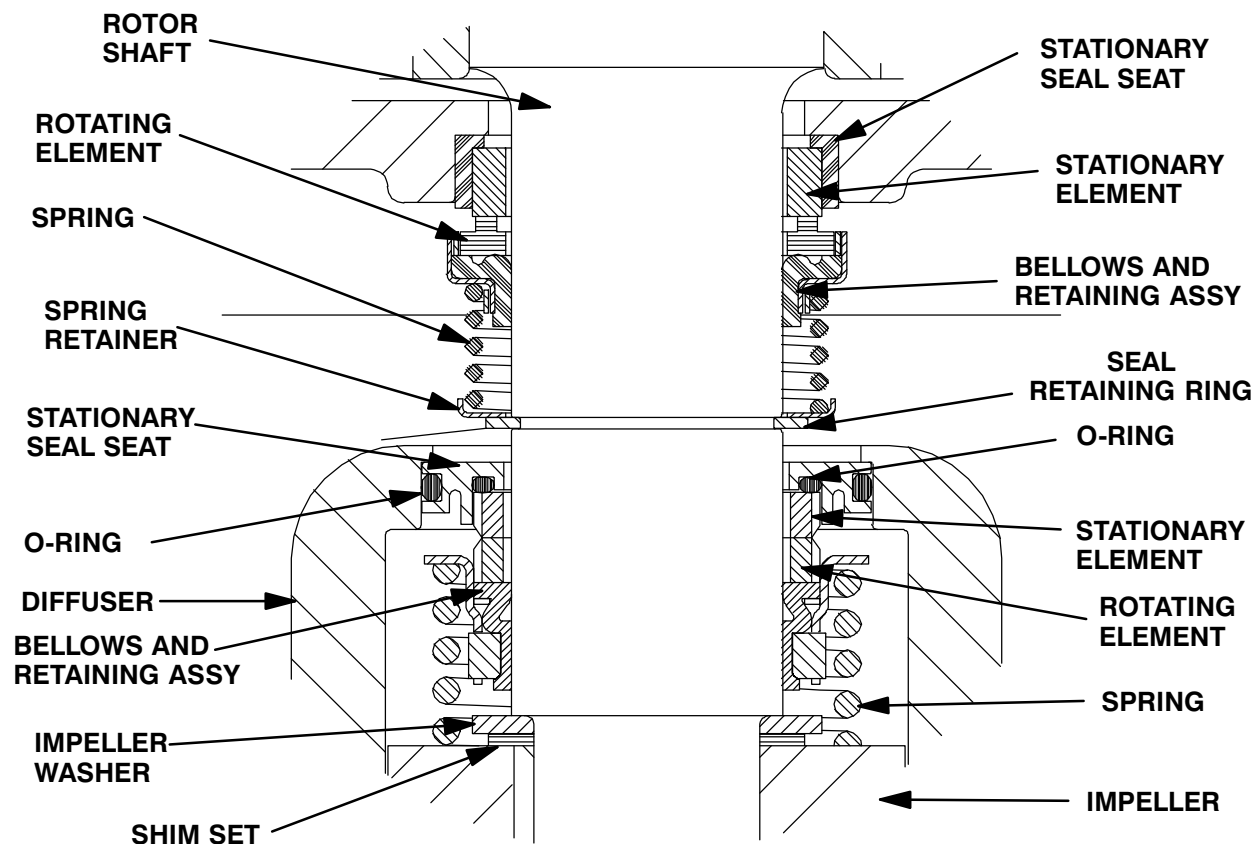

Figure E-3. Upper And Lower Seal Assemblies
Install the shaft seals as illustrated in Figure E-3.
Slide the seal spring over the shaft and bellows retainer, and install the spring retainer. Install the seal retaining ring (21). See Figure E-3 for the proper order of seal assembly.
Slide the seal spring over the shaft and bellows retainer. See Figure E-3 for proper order of seal assembly.